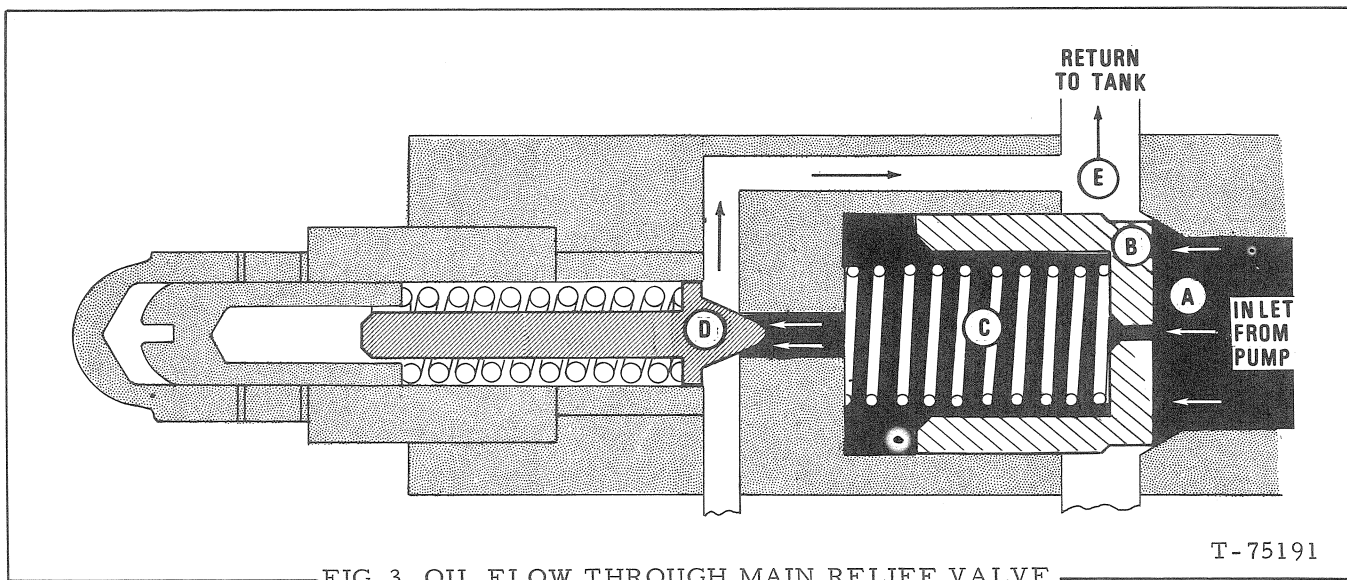

FIG. 3 OIL FLOW THROUGH MAIN RELIEF VALVE
Oil flow through main relief valves is as follows; when oil flow is not restricted pump oil flows around the valve and returns to tank. When oil flow is restricted (cylinder piston rods cannot move) pressure build-up in cavity, Fig. 3 (C) momentarily opens valve (D) dumping oil from cavity (C). Due to the small orifice in